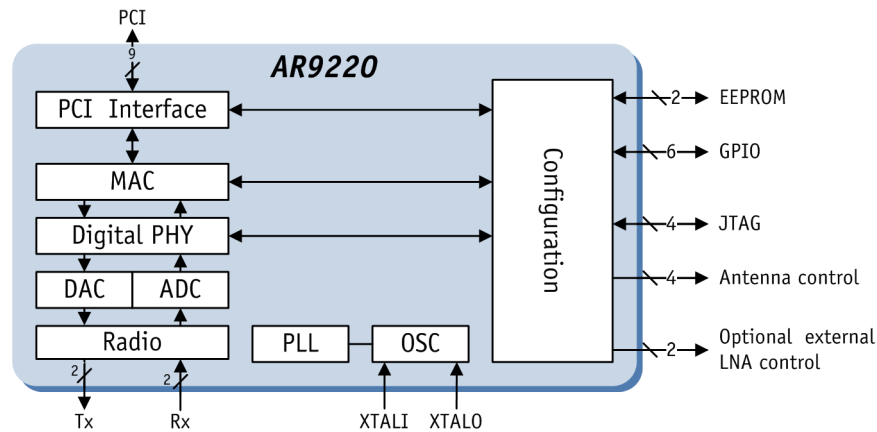

Figure 2-1. Functional Block Diagram of the AR9220
The baseband digital processing functions are implemented by the digital PHY of the AR9220. The radio frequency (RF) and baseband analog processing are provided by the integrated radio. The physical layer (PHY) is partitioned between the baseband processor and the radio. The configuration block, PLL, ADC, DAC, EEPROM interface, JTAG, antenna control, LED controls and GPIO complete the AR9220 functionality. See Figure 2-1.